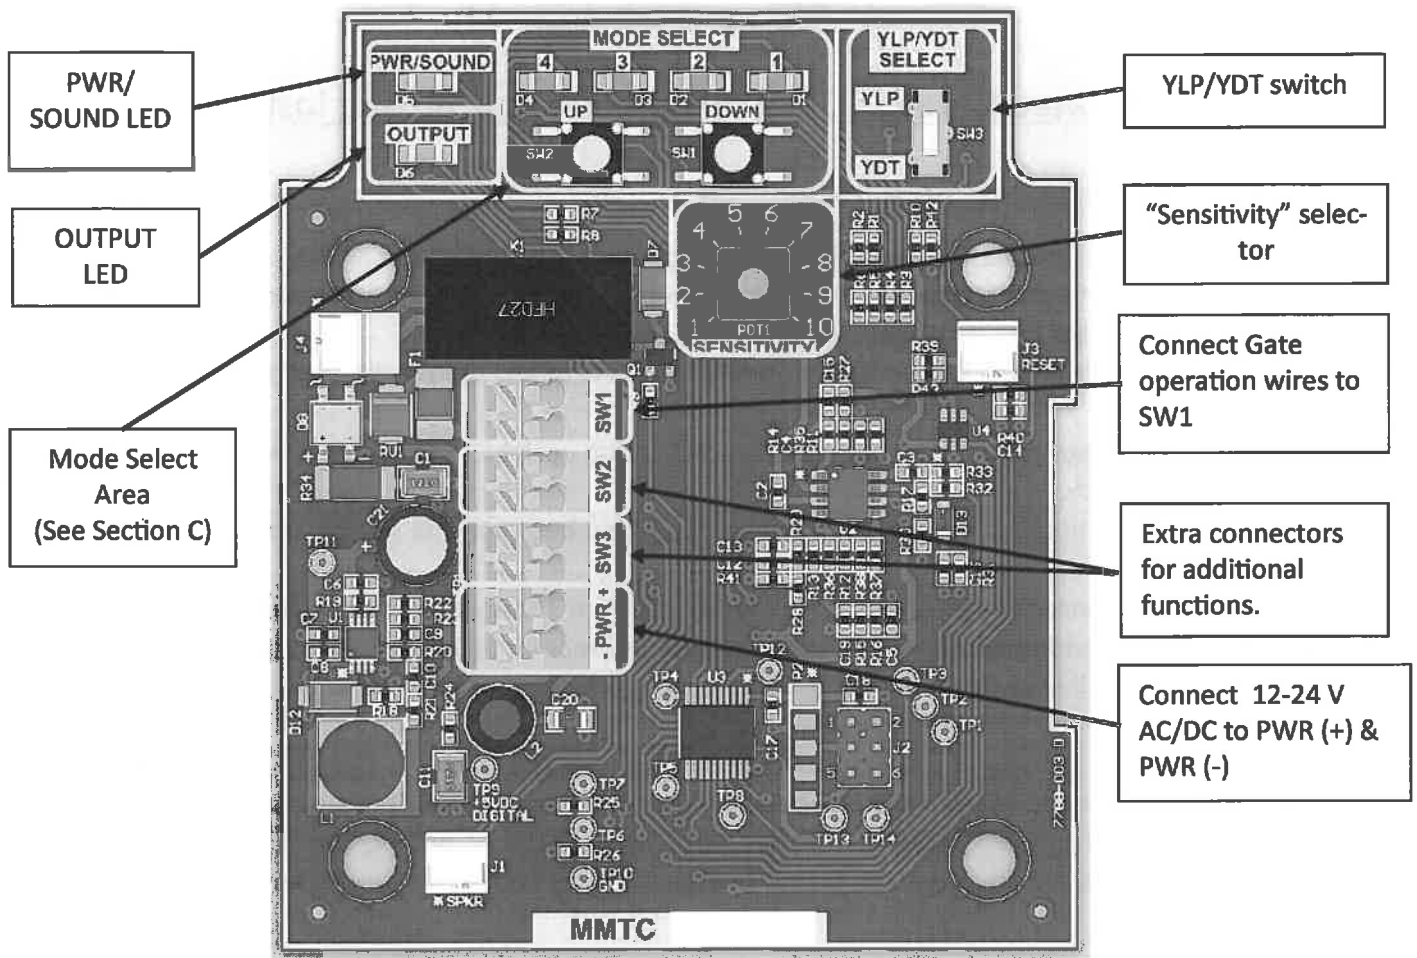

Figure 2: SAG-M Circuit Board
- 2) Connect 12-24 V AC/DC power wires to connector at PWR (+) & PWR (-). Refer to Figure 2 for connector location.
- 3) Connect the Gate operator relay signal wire to the connector at SW1. Refer to Figure 2 for connector location.